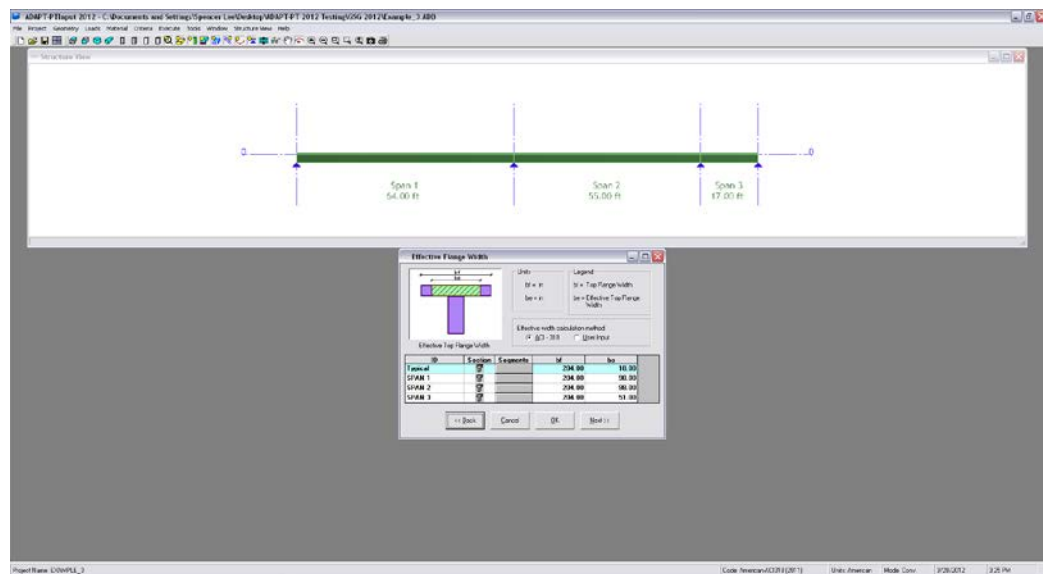

FIGURE 4.2-5
4.2.2.2 Enter Effective Flange Width (Fig. 4.2-5)
In the *General Settings* input screen, we selected “yes” to include effective flange width; therefore the screen as shown in **Figure 4.2-5** opens. In this screen, the default values of “**b_e**” are calculated from the geometry according to the ACI code. You cannot modify these values. If you want to input these values, change *Effective width calculation method* option to **User input**.